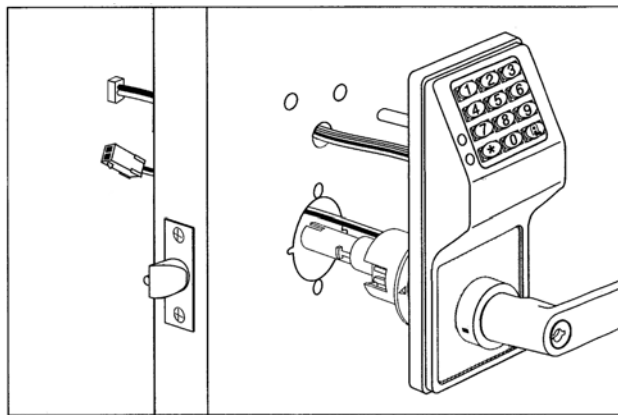

FIG. 7: INSTALL OUTSIDE LOCK BODY
- Insert motor wire plug through the large 2 1/8" hole and the ribbon cable through the 1" hole as shown in Fig. 7.